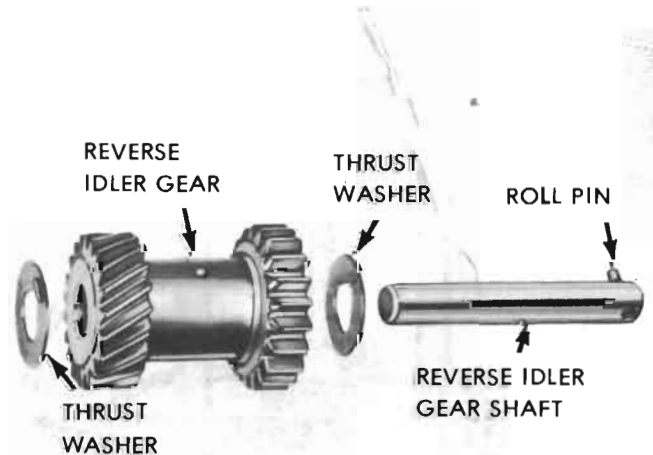

Figure 72-87 - Exploded View of Reverse Idler Gear
1. Install reverse idler gear, with a thrust washer on each end in case. Make certain that roll pin is seated in slot in back face of case. See Figure 72-87.